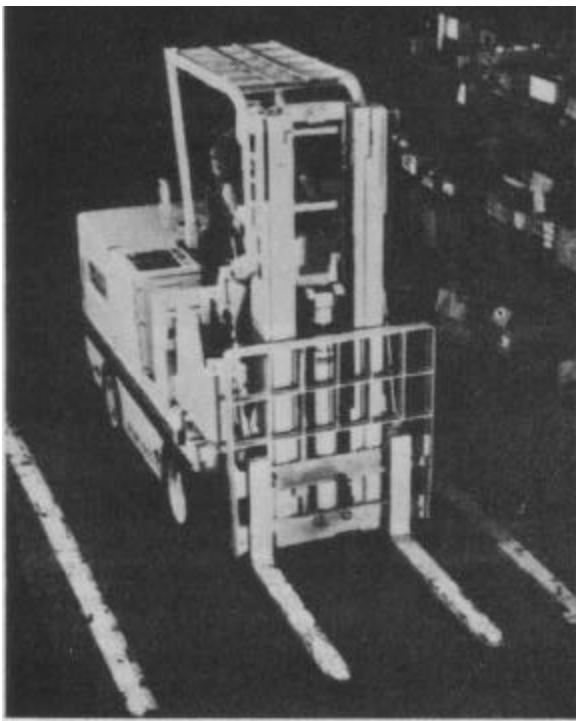
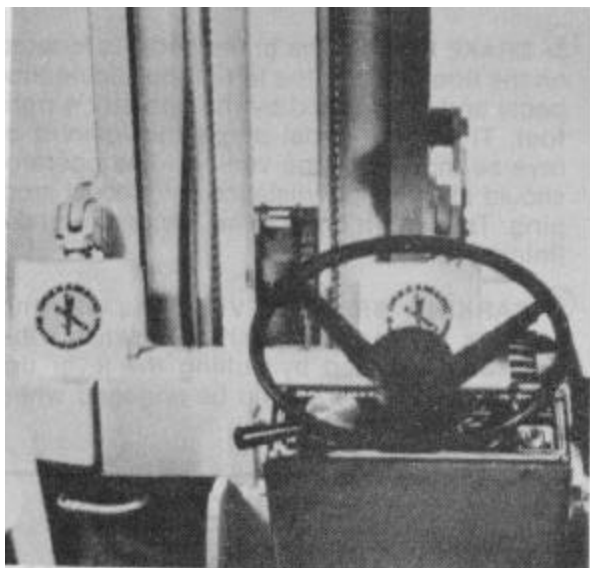

Figure 1-1.
Figure 1-5.
1. When the mast is in the forward position, it operates as a conventional counterbalanced front loading truck. (Figure 1-1).
1. With the mast (and forks) in the conventional forward position (Figure 1-1), left shift is restricted to 16" inches. Pivoting the mast clockwise (approximately 20 degrees), beyond the front loading position, allows full left shift travel.
3. Shift the unloaded mast fully to the right side of the vehicle and pivot the mast counterclockwise so that the mast is directly in front of the vehicle (Figure 1-1). Shift the mast to the left. The mast should stop at 16 inches, plus or minus 1 inch of travel (Figure 1-5). If the mast shift is greater than 17 inches or less than 15 inches, do not operate the vehicle until the malfunction has been found and corrected.